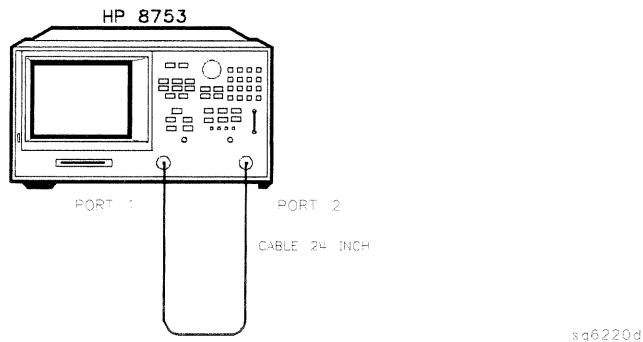

Figure 2-42. Test Port 1 Input Impedance Test Setup
27. Connect the equipment as shown in Figure 2-42.